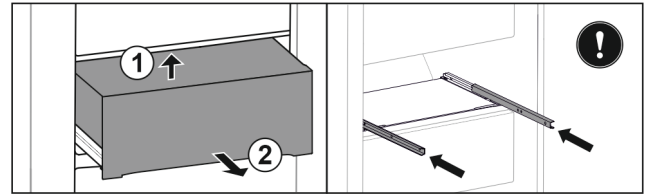

Fig. 138
- Lift drawer from below. Fig. 138 (1)
- Remove drawer to the front. Fig. 138 (2)